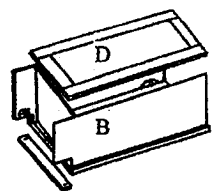
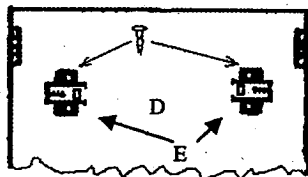
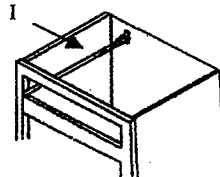

Figure 5
Figure 6
Figure 7
5. Install the back panel and toe kick (Figure 5): before you start this step, put the back panel (D) on a flat surface face up. Install the drawer rail holders (E) in the pre-spotted area on the back panel (Figure 6). The opening of the holders should be facing towards each other. Secure them with 2 round head screws (Q) (Figure 6). Then put the back panel (D) at rear of side panel (B) (Figure 5). Align it and lock each cam lock. Install the toe kick by locking the cam lock at both ends (Figure 5).
6. Install the shelves: insert the shelf clips into the holes on the side panels at the desired height and slide in the shelves (L).
7. Install the drawer slide rails (Figure 7): insert the drawer slide rails backend into the holder (E) previously installed (step 5) on the back panel. Then secure the drawer rail front end with 3/8" screws using the predrilled holes in the face frame. Repeat this step for more drawers.